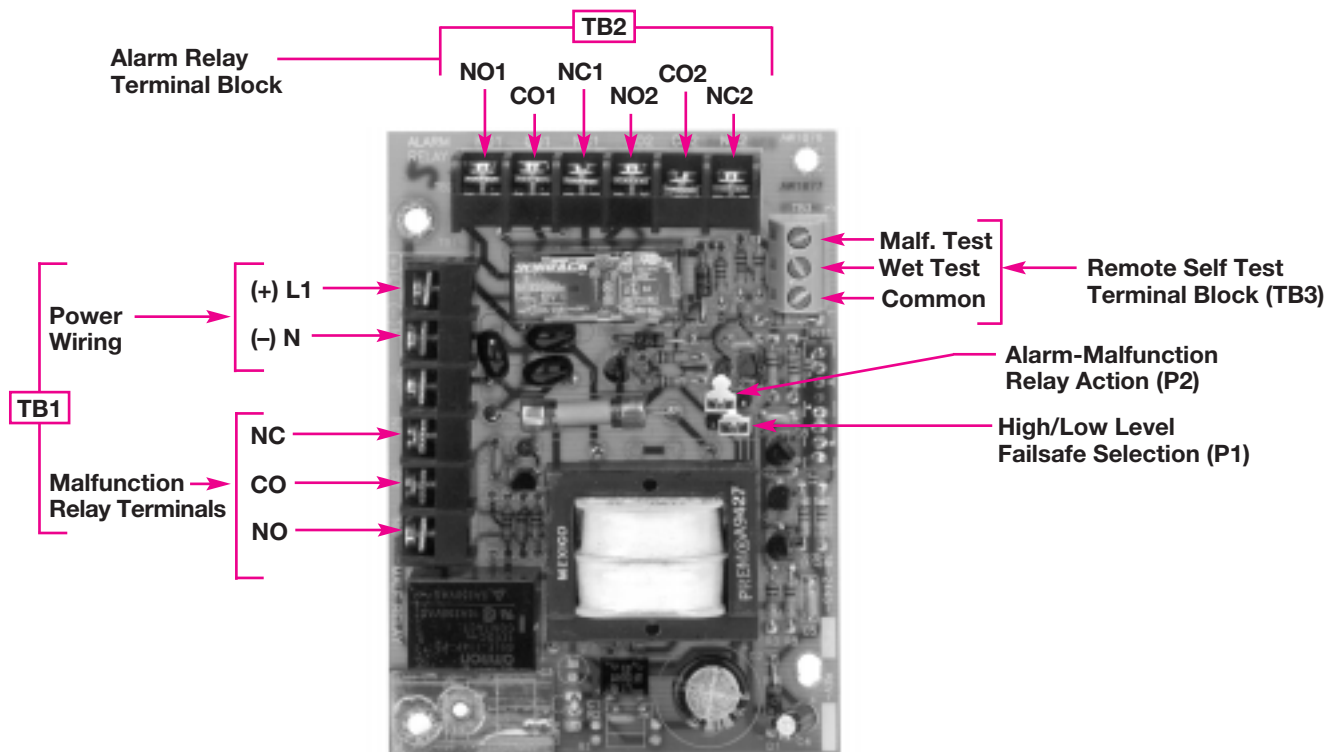

Figure 4
**NOTE:** THE AMPLIFIER BOARD AND POWER SUPPLY BOARD WILL BE DISCUSSED THROUGHOUT THIS MANUAL. THE POWER SUPPLY BOARD IS SHOWN IN FIGURES 4, 5, 6, AND 7, DEPENDING ON THE VERSION. THE AMPLIFIER BOARD IS SHOWN IN FIGURES 9, 11, AND 12.
5. Attach power leads to power terminal block TB1 on left side of power supply PC board. Power to properly marked terminals ([+]L1 and [-]N). Run ground wire to green screw on bracket. Refer to Figure 4 for 120/240 VAC version.
8. If using the malfunction relay, run wiring to lower portion of TB1 as shown in Figure 4.
5. Run power leads to power terminal strip (TB1) on left side of the power supply board. Refer to Figure 4 on page 4.